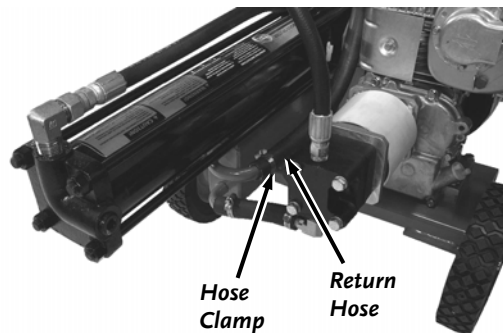

Figure 35
- Loosen the Hose Clamp on the end of the Return Hose (**Figure 35**)
- b. Reconnect the Return Hose to the Hydraulic Tank (**Figure 35**).